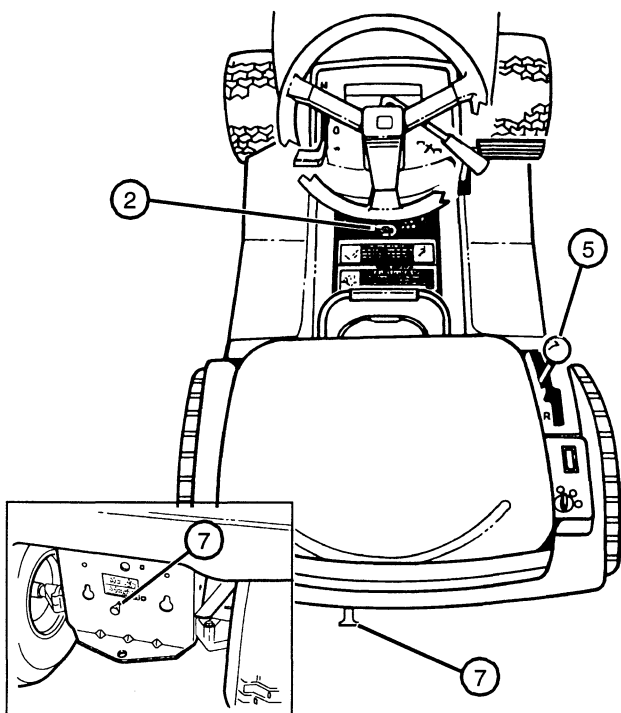

FIG. 18
Pull free-wheeling knob (7) rearward, unlocking transaxle. (See Fig. 18)
- Either unlock park brake lever (2) or move hydrostatic shift lever (5) to N (Neutral) position.